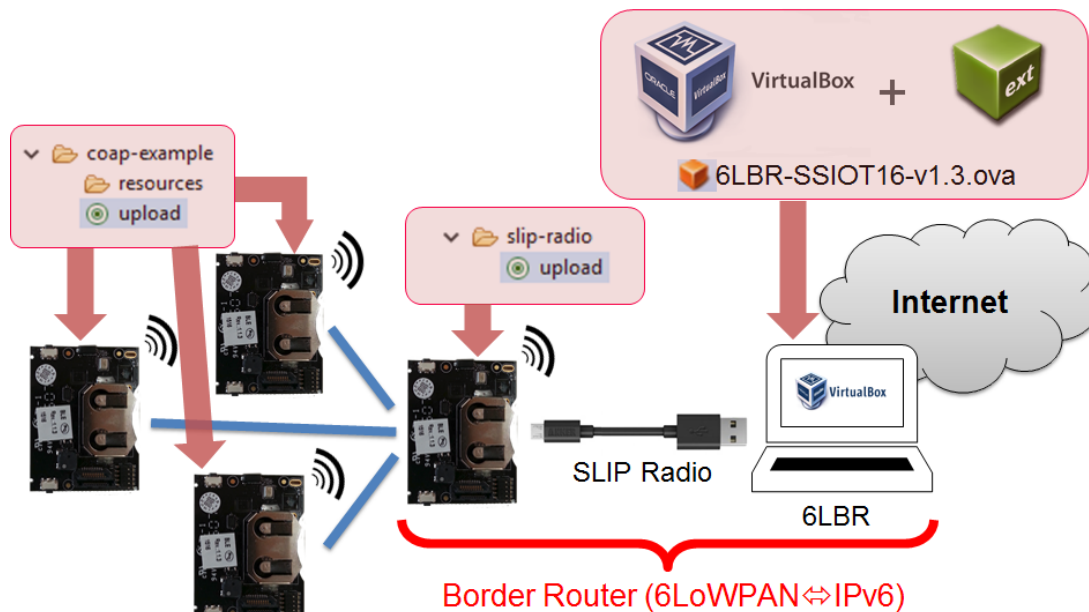

Figure 2: Network setup for the in-class tutorial with Copper.
Setting up a border router. Set up a LoWPAN with a border router (BR) as root by following the steps shown in Figure 2. Assign one member of your group to be the BR, and download the Virtual Machine (VM) from https://gitlab.random-circuits.com/toolchains/embedded_internet_17/raw/master/6LBR-SSIOT16-v1.3.ova.